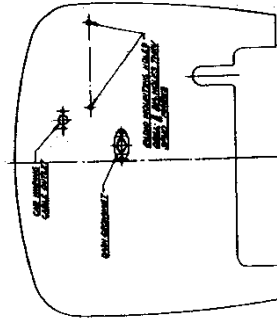

FIGURE 1
2. Drill two 1/8" holes in the dash. Refer to Figure 1 for the location of the center punch on the dash for a distance of 1/4" around the holes to insure good ground contact.